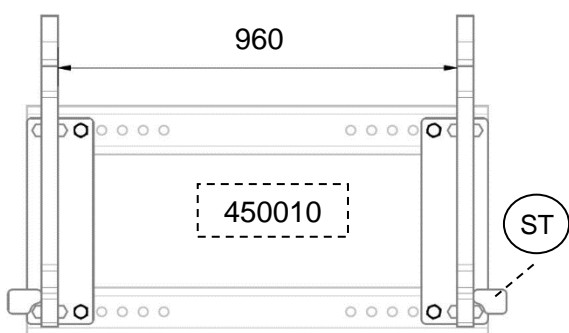

Figure 7.1
It is important to maintain the C-C dimensions (see Fig. 7.1...7.8) when installing the attachments. The location of the stop lug (ST) is also an important part of the installation.